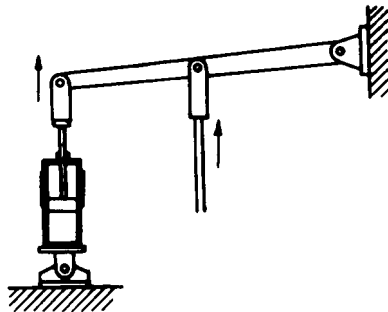

Fig. 2 A cylinder can be used with a second-class lever.
**Fig. 2** Flexible vanes on an eccentric rubber rotor displace liquid as in sliding-vane pumps. Instead of the vanes sliding in and out, they bend against the casing to perform pumping.